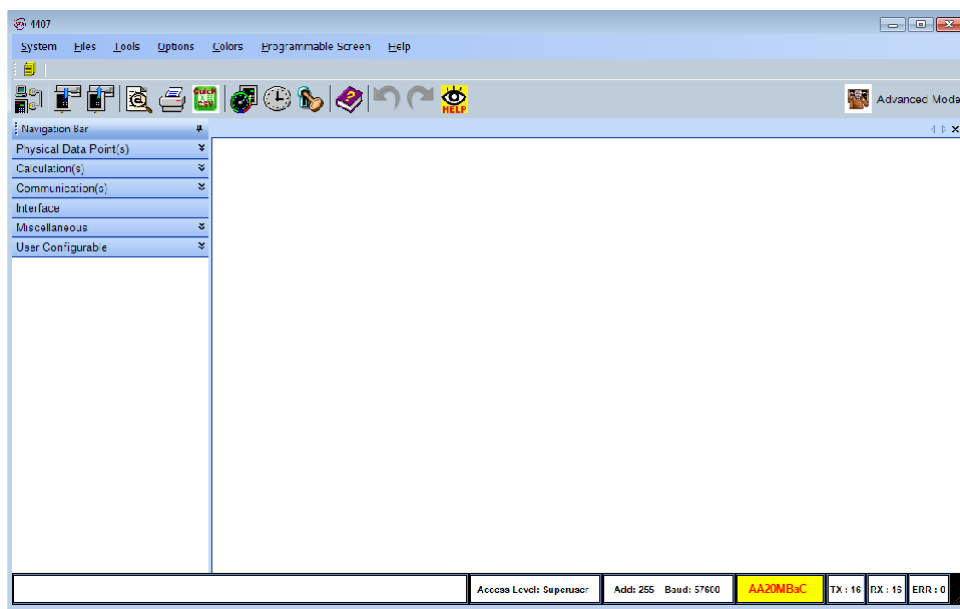

Figure 3-9. Bluetooth connection successful
Step 12: The successful connection screen will display AutoXP Firmware ID as shown in Figure 3-9.